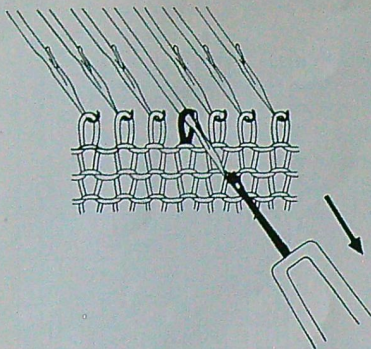

Fig. 27
- (1) Hold the transfer tool parallel with the needle and place the eye of the transfer tool into the hook of the needle. Bring the needle forward. The stitch in the hook of the needle will slide behind the latch and onto the needle. (See Fig. 27)